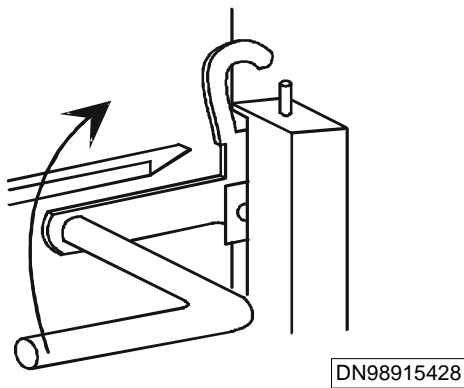

Figure 31 Locking the roof
6. Lock the roof by closing the hooks with the door key handle at both sides, as shown in Figure 31.